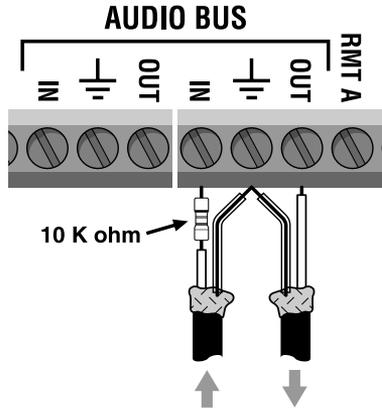

Fig. 3.18 Audio Bus Wiring
**The audio bus inputs are actually “current” inputs so a 10 K ohm source resistor (1/4 watt) is required for connection.** This allows an almost unlimited number of sources to be connected. The best place to locate the 10-K resistor is at the input connector since this results in the lowest noise. This is shown in Figure 3.18. No resistor is required for connection to the audio bus outputs.